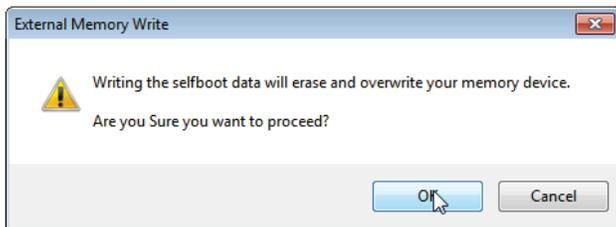

Figure 72. External Memory Erase and Overwrite Warning Window
9. A warning dialog window appears to remind the user that executing an external memory write erases and overwrites any data currently stored on the EEPROM (see Figure 72). Click OK to proceed.